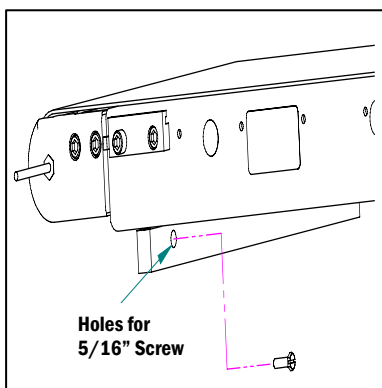

Figure 4
- c. Insert 5/16" diameter screws (not included) into the holes in the Bottom Mount's face, and into the surface to which it will be mounted (**Figure 4**).